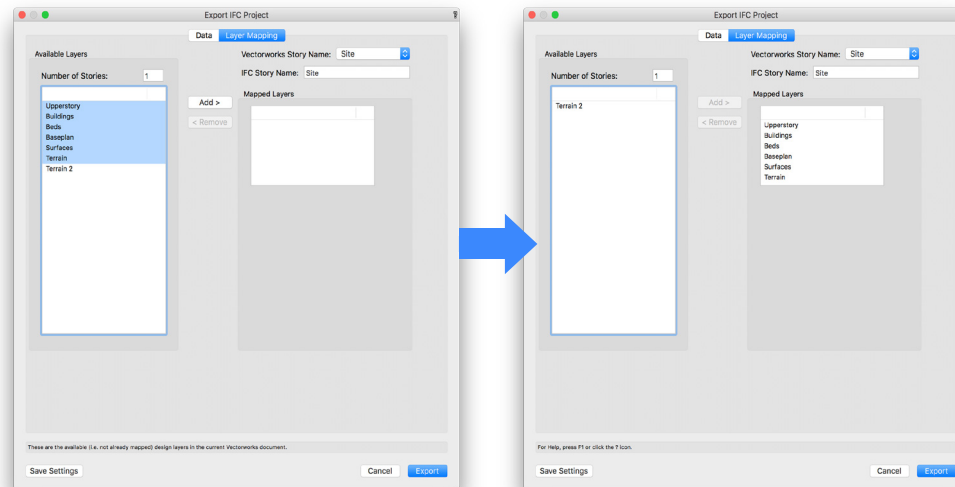

FIGURE 29: Export IFC Project dialog box – layer mapping tab confirms which layers will export
3. Click the **Layer Mapping** tab to specify which layers to export, then click the Vectorworks and IFC Site (Story) Name to assign to them at export (Fig. 29).